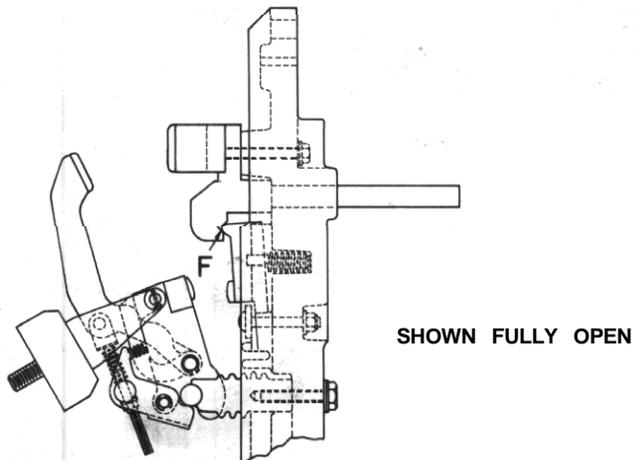

Figure 12
- Surfaces marked “F” should be lubricated by a thin film of “Conducto-Lube #240-200” before assembly. (Figure 12).